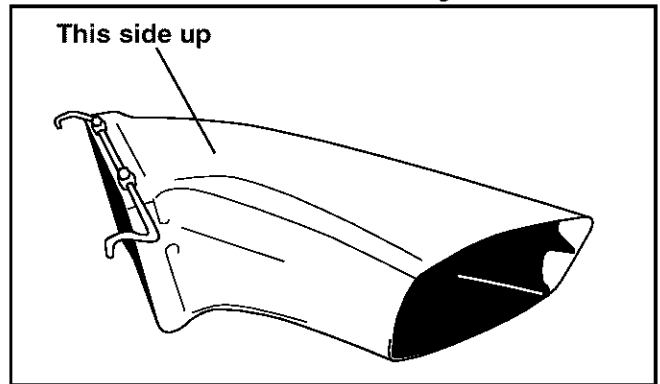

Figure 12
- For the correct orientation see Figure 12.